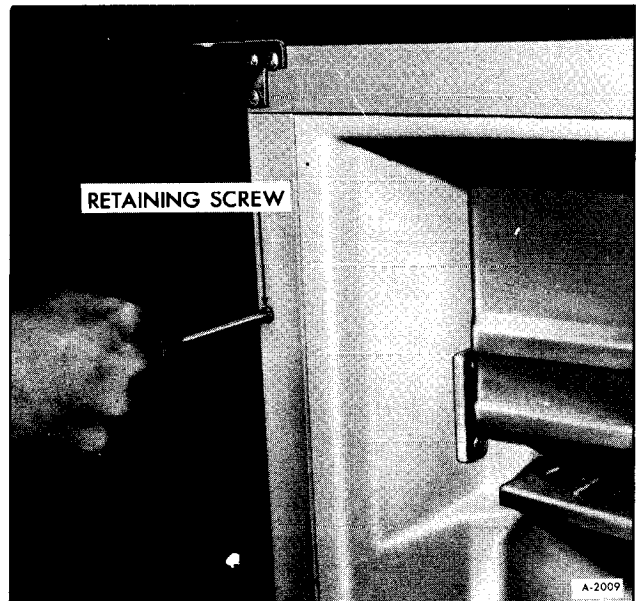

Figure 6–Removing Refrigerator Retaining Screws
4. Remove four screws from sides of refrigerator as shown in Figure 6.
2. Install four retaining screws (figure 6).